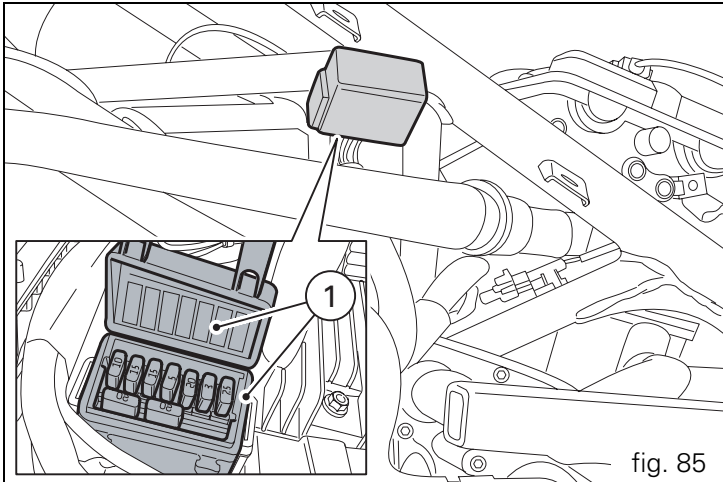
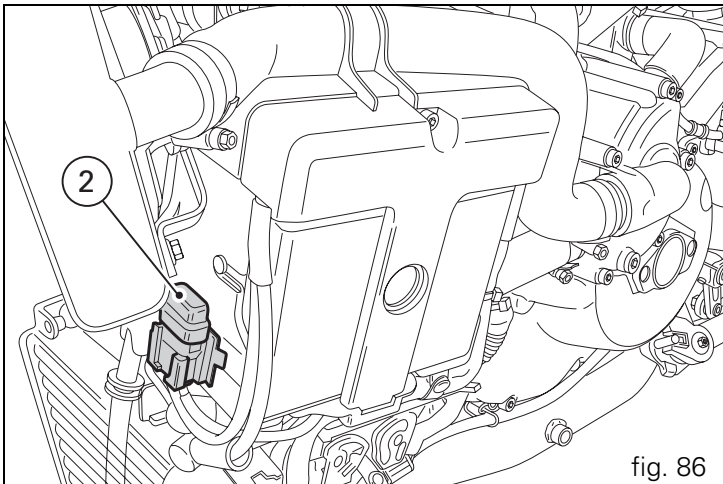

fig. 85
fig. 86
The main fuse box (1, fig. 85) is located on the left of the frame. The fuses are accessed by removing the cover, on which are indicated the ampere ratings and fuse positions.
**Key to fusebox** (fig. 85 and fig. 86)